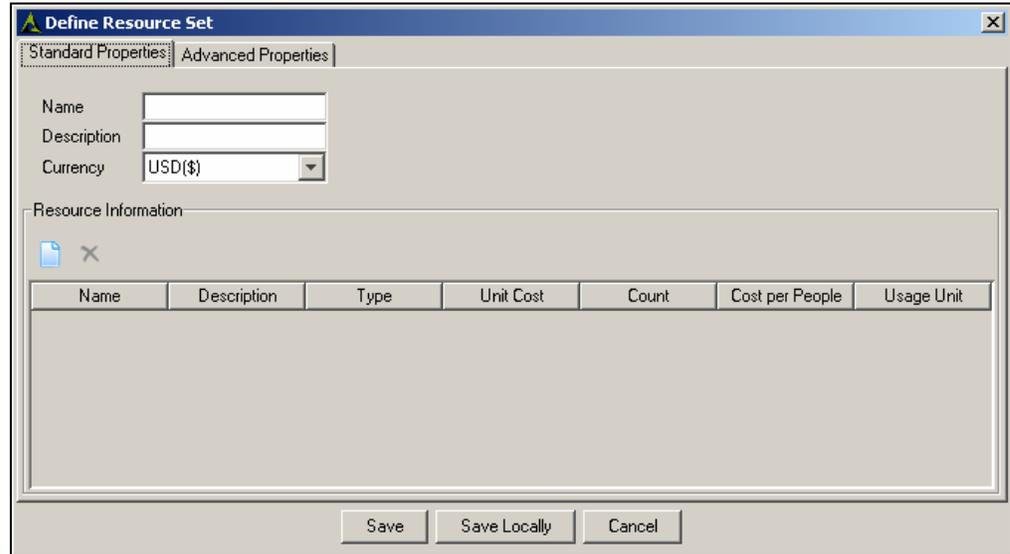

Figure 10.4: Create New Resource
1. In the Process Simulator applet, click **Create New Resources** () icon. The Define Resource Set dialog box appears (see Figure 10.4).